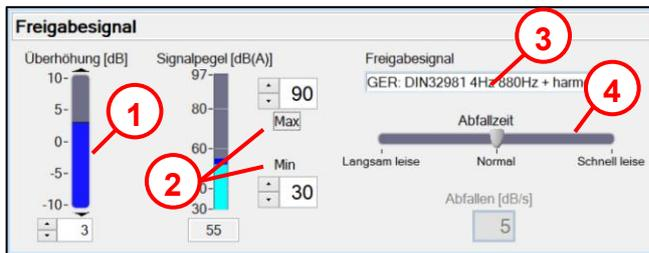

Fig. 29
- If the road width is set here, the "Boost" setting (see Fig. 29) defines the pedestrian crossing signal.